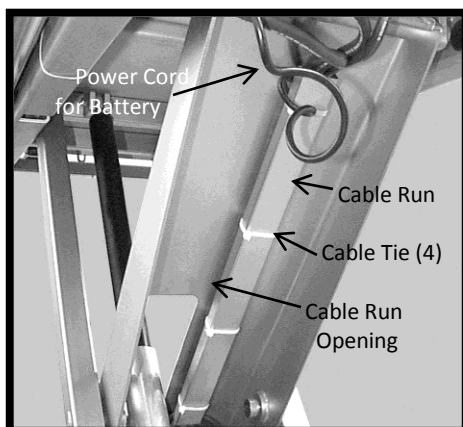

Figure 21: Cable Run
4. With a knife or scissors, remove the four cable ties on the cable run under the large table leg (Figure 21).